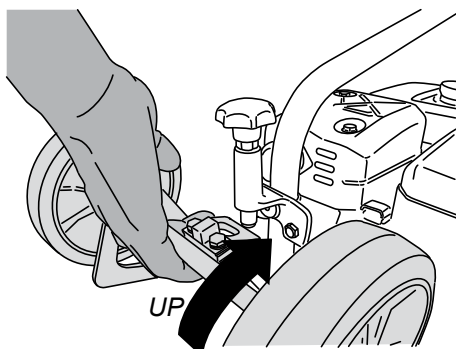

Figure 15. Positioning Axle (Stowed)
3. With your hand, grab hold of the axle bar (Figure 15) and pull upwards. Continue pulling axle upwards until it is hooked to the stopper.